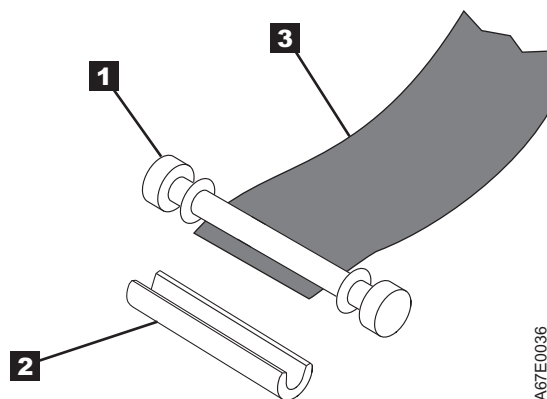

Figure 149. Removing the C-clip from the leader pin. Use your fingers to push the C-clip from the leader pin.
5. On the leader pin (**1** in Figure 149), locate the open side of the C-clip (**2**). The C-clip is a small black part that secures the tape (**3**) to the pin.